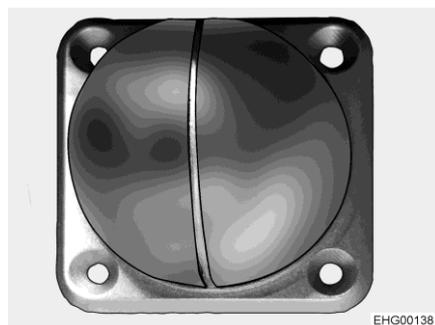

Fig. 108 Docking station (active and passive)
- Active docking station (Fig. 108) with charging function in the wardrobe
- Passive docking station (Fig. 108) underneath wall-mounted cupboard
The mobile lamp is pushed together (Fig. 106) and is plugged onto a passive docking station (Fig. 108).
Charging: ■ Push lamp together (Fig. 106) and plug onto active docking station (Fig. 108) in the wardrobe.